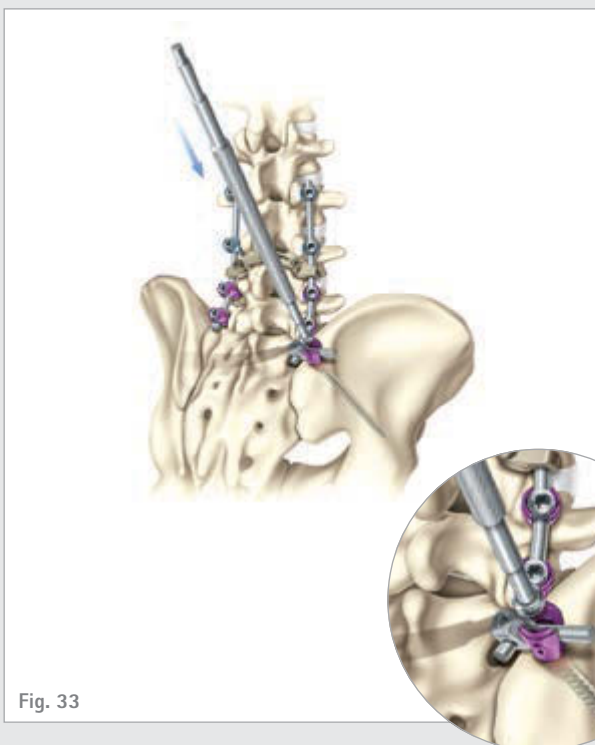

Fig. 33
- Start the set screw on the pelvic screw and finger tighten the set screw. (Fig. 33)